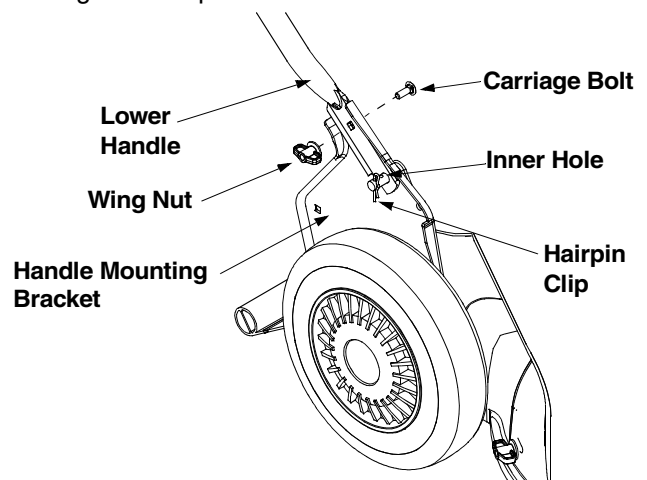

Figure 4
- Remove hairpin clip from the outer hole of the weld pin on each handle brackets. Using a pair of pliers, squeeze one leg of the lower handle against the handle bracket. Insert the hairpin clip into the inner hole on the weld pin. Repeat on the other side. See Figure 4.
- After moving the hairpin clip, insert the carriage bolt, from the hardware pack, in the upper hole on the handle mounting bracket and secure with plastic wing nut, also from the hardware pack. See Figure 4. Repeat on the other side.